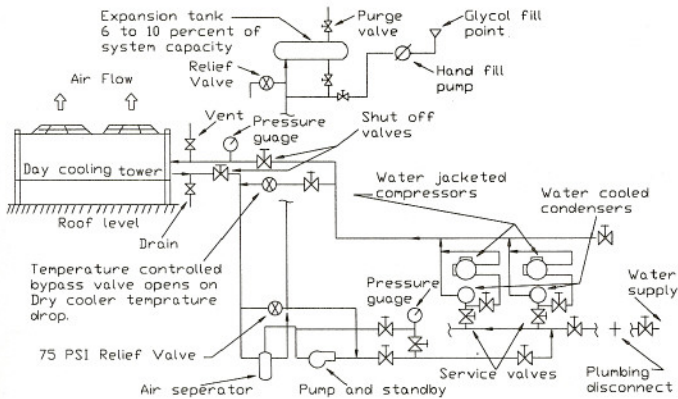

Figure 2
2. **Fill Procedure:** After being certain that the system is pressure-tight and leak-free, fill fluid through the charging valve located in the line between the expansion tank and air separator (**See Figure 2**). Continue fill procedure until gauge installed at the system high point reads approximately 4 PSIG. This will assure a completely filled system. Open manual air vent installed at system high point maintaining gauge pressure. Repeat this procedure until all air is released from piping. Close the manual air vent tightly and open the expansion tank level indicating valve until fluid appears at the valve opening. Fill valve is open and pressure on system is maintained at the high point while this operation is taking place. Once fluid is sighted coming from the level indicating valve - close quickly. This indicates that sufficient fluid has entered the tank and system. Simultaneously the fill valve should be closed and the fluid source disconnected from the valve. If the gauge pressure at the system high point should be substantially above 4 PSIG, merely open the charging valve slightly until pressure drops back. Now the fluid circulating pump is started. Observe discharge gauge pressure until proper flow is being delivered, but adjusting the valve until the gauge shows the pressure necessary to make pump deliver the required GPM according to the pump performance curve.
Figure 2 shows a closed and sealed compression tank at the pump suction. The water-glycol system should be designed with a compression tank to prevent oxygen contamination and consequent corrosion, which is, perhaps, the most effective protective measure that can be used. In a closed system, the water soon becomes neutral because its initial corrosive oxygen charge is used up after a short period of time. The same will apply to the water-glycol system; therefore, it is important to design the system as a closed system to prevent oxygen contamination.
Refer to the air separator sizing chart (Table 7) and install per schematic diagram Figure 2. Tank selection is based on a maximum vertical distance of 18 feet between the highest point in the system and the compression tank. For each 2 foot vertical distance over 18 feet, add 5% to compression tank size.